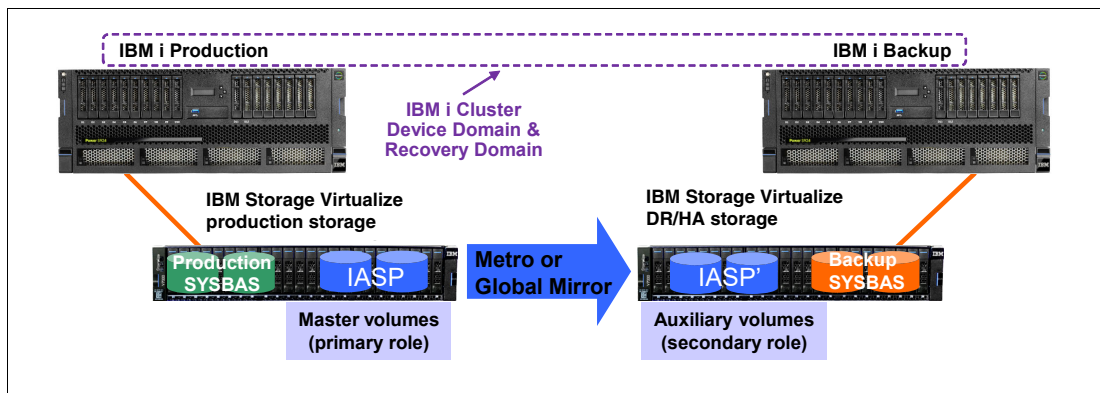

Figure A-12 IBM i IASP replication with IBM Storage Virtualize
IASP-based replication for IBM i is used for a high availability (HA) solution where an IBM i production and an IBM i backup node are configured in an IBM i cluster and the IASP that is replicated by IBM Storage Virtualize remote replication is switchable between the two cluster nodes, as shown in Figure A-12.